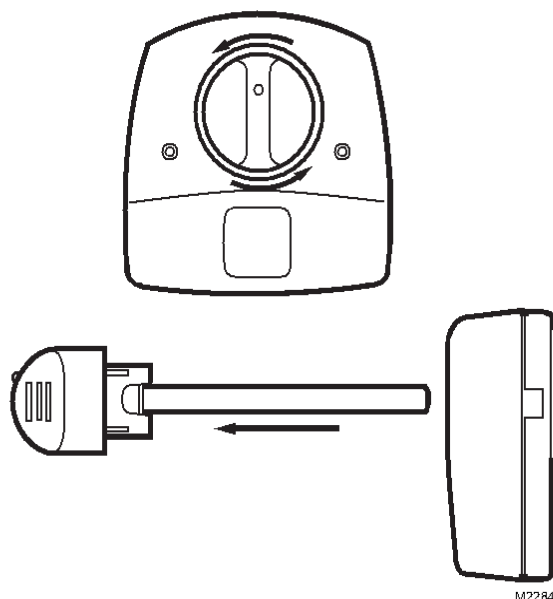

Fig. 1. Remove lamp bulb.
4. Rotate the lamp handle counterclockwise and gently pull the lamp handle to remove the bulb. See Fig. 1.